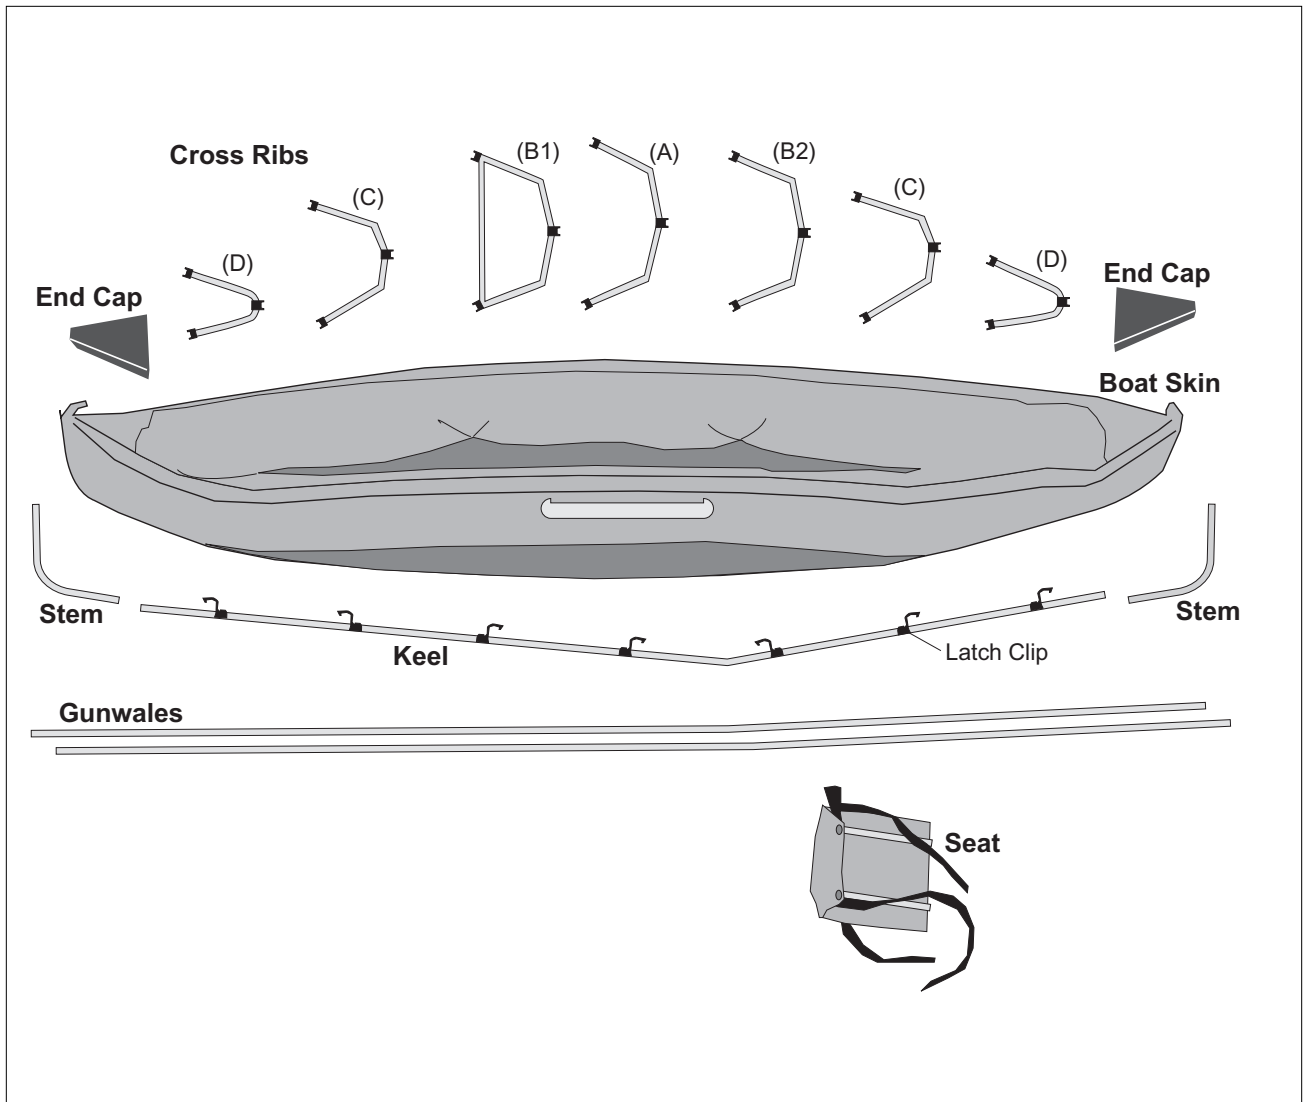
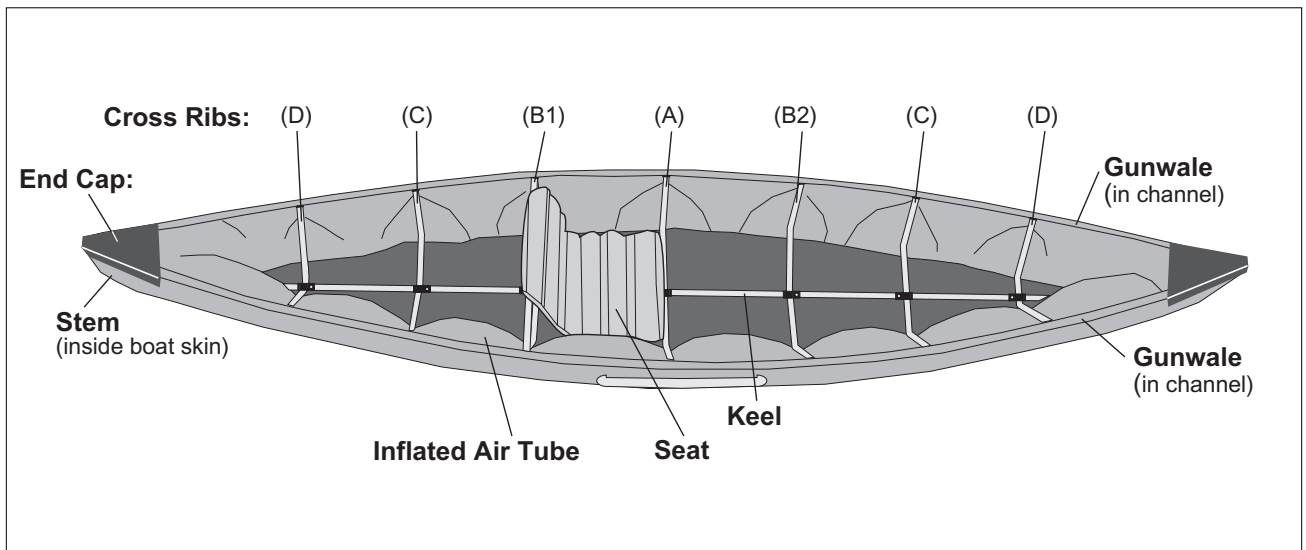

Figure 1, Parts
Figure 2, Assembled
**NOTE!** We recommend that you study this manual carefully before you start the assembly procedure! When assembling the Puffin Sport, please refer to Figure 1 and Figure 2 of this manual.